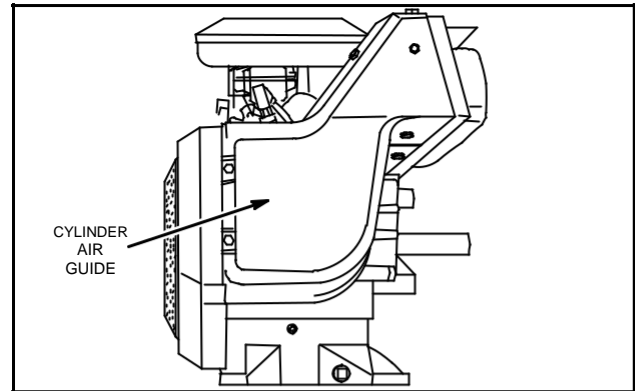

Fig. 2 – Remove Cylinder Air Guides
1. Remove cylinder air guide assemblies, Fig. 2.